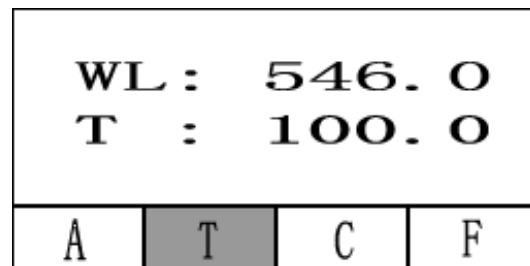

Fig. 4-3
Step 1, Choose “T” by up and down key. (Fig. 4-3)